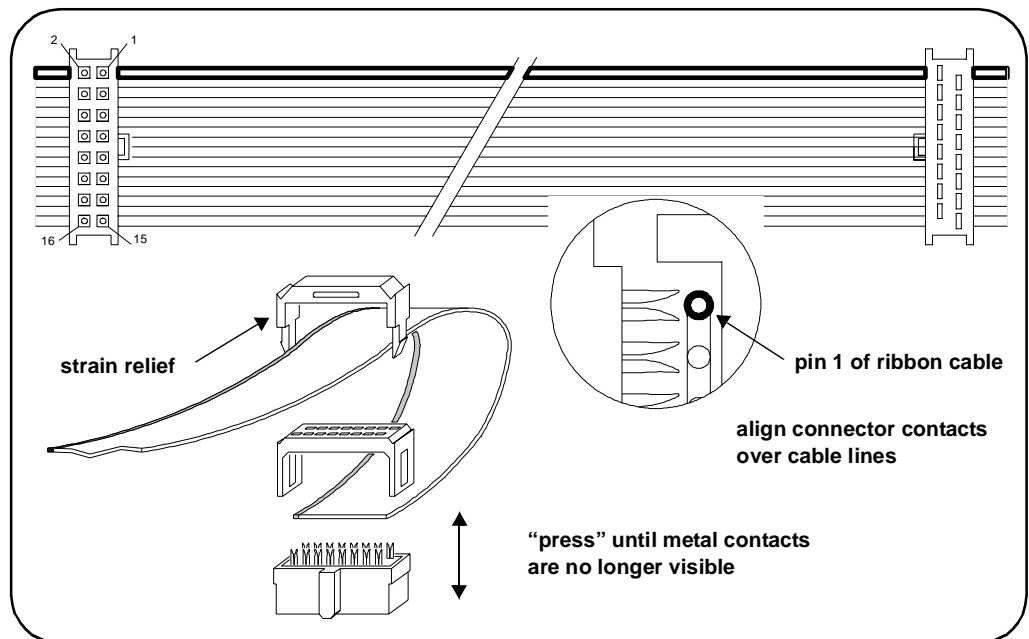

Figure A-7. Y1159A 16-pin to 16-pin Connector Orientation and Cable Routing.
2. Position the ribbon cable connectors as shown in Figure A-7. Route the cable **through** the connectors, noting the location of pin 1 on the cable. By convention, pin 1 is indicated in red (the dark line in the drawing).
6. Fasten the strain relief clamps over the cable and into the ribbon cable connectors as shown in Figure A-7. Remove any excess cable after the clamps are in place.